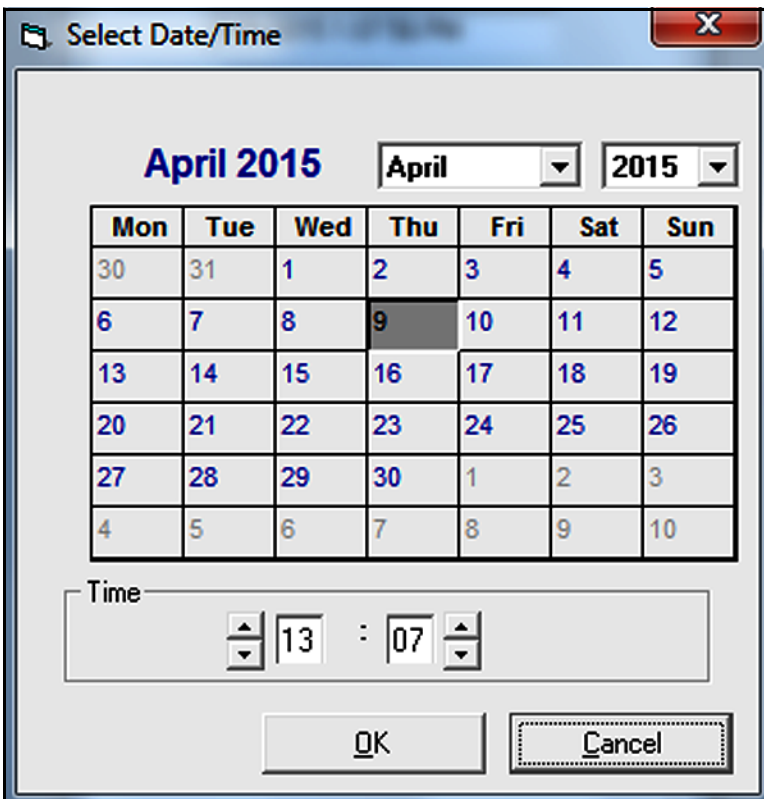

Figure 47: The Date/Time Dialog Box
- Click on the [Set] button to open the dialog box shown in *Figure 47* below. Set the desired date and time as indicated, and click on the [OK] button.